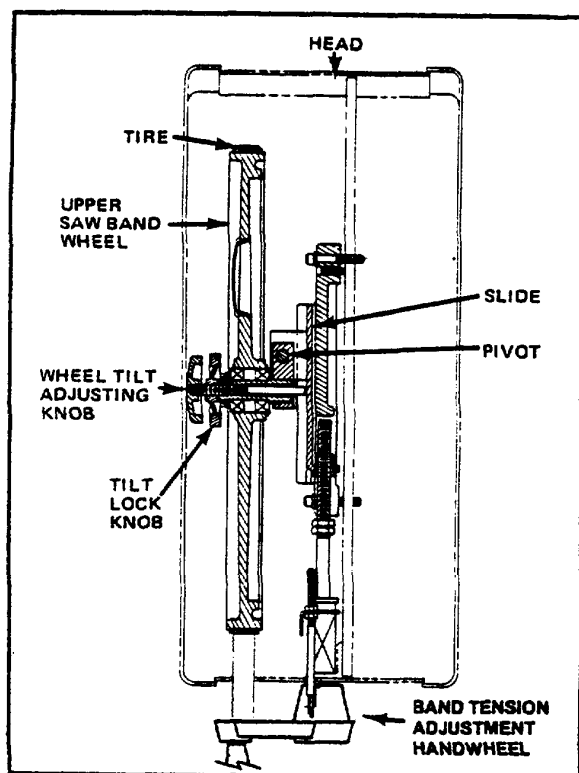

FIG. 10. WHEEL TILT ADJUSTMENT -SIDE VIEW.
- (1) Open band wheel doors. Manually turn wheels and observe how band tracks on tires. Adjust wheel tilt if band does not track on tire centers.
- (2) Change wheel tilt by loosening lock nut and adjusting tilt knob until band rides tire correctly. See Fig. 10. Band's back edge should just touch saw guide back-up bearings.
- (3) Tighten lock nut.